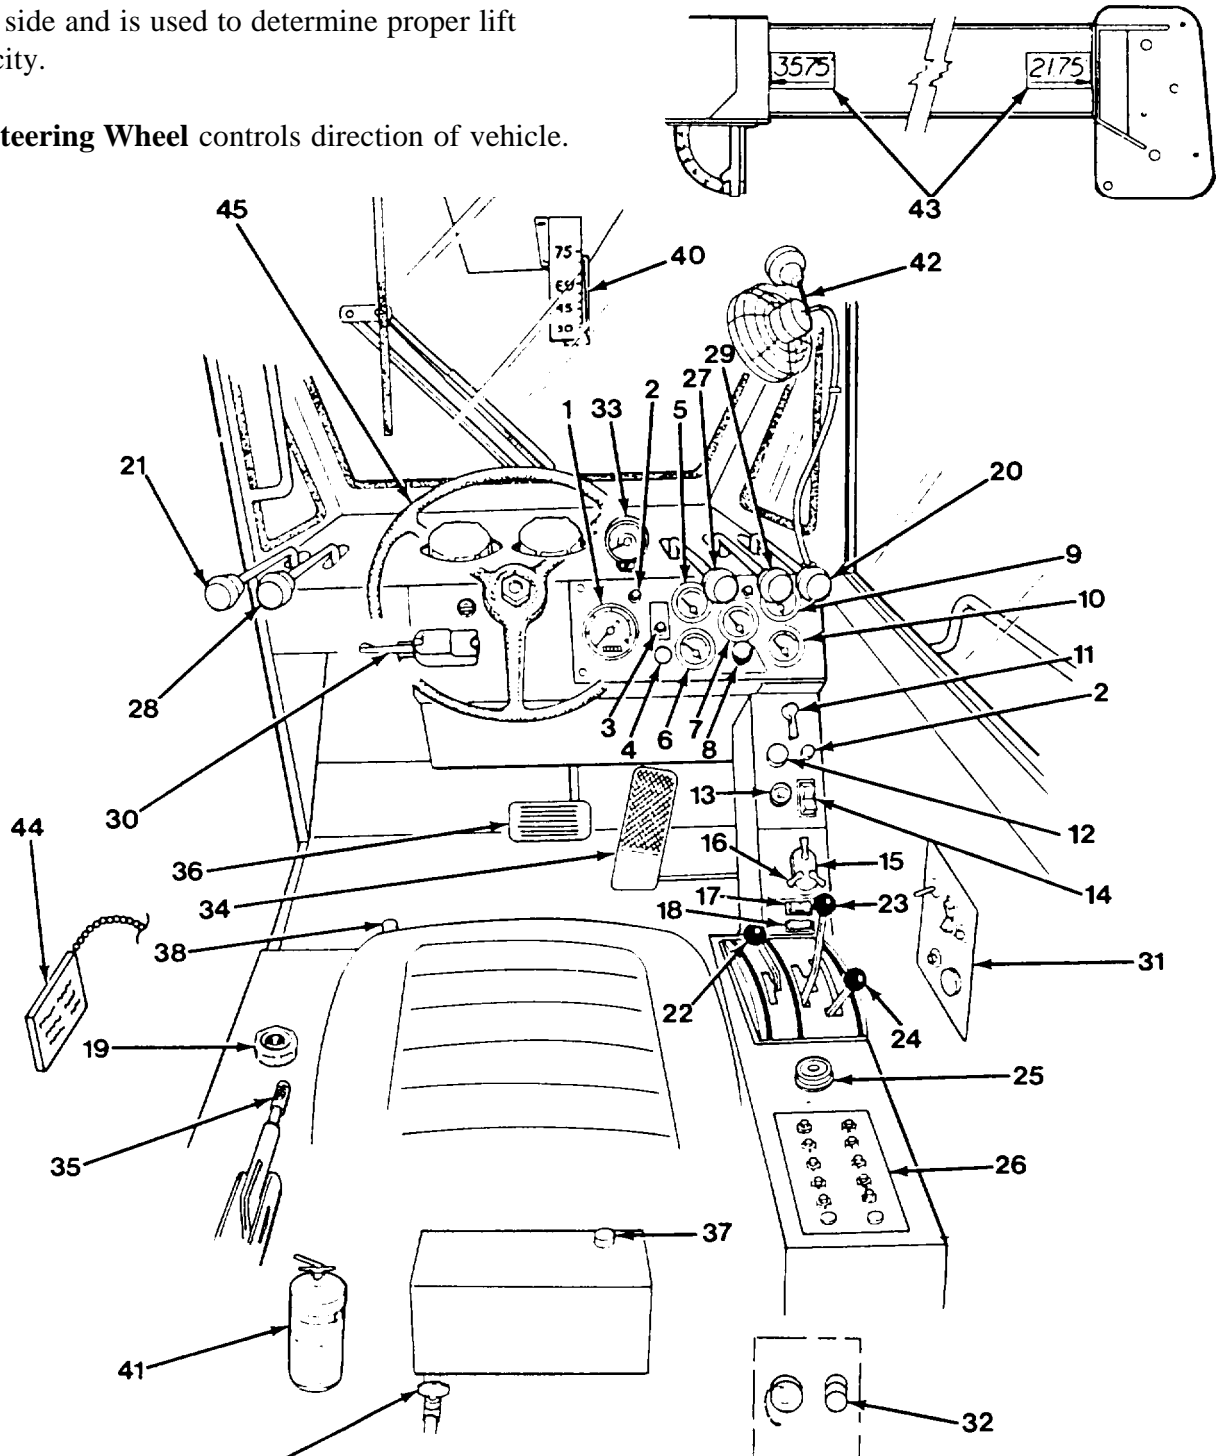

Figure 4-1. *Control and Instrument Identification*
34. **Accelerator Pedal** increases fuel flow and engine speed (Figure 4-1).